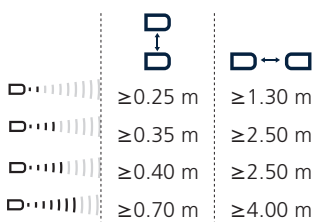

Fig.2: Assembly distances
- Connect a connection cable to the M12 device plug. The assembly distances shown in fig. 2 for two or more sensors should not be fallen below in order to avoid mutual interference.